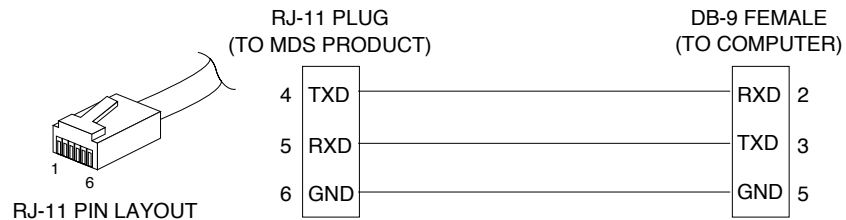

Figure 3-5. Serial Communications Cable (RJ-11 to DB-9)
1. Connect a serial communications cable between the PC and the unit's COM 1 port. If necessary, a cable may be constructed for this purpose as shown in Figure 3-5.